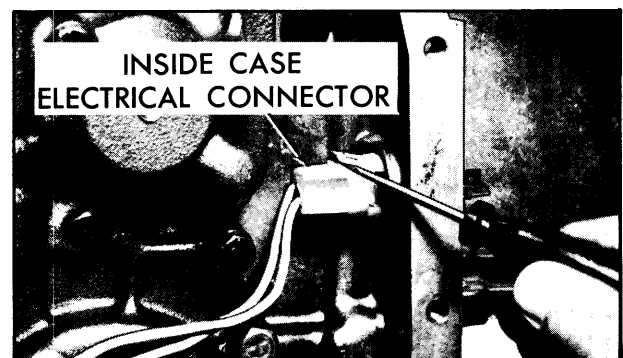

Fig. 7E-222 Installing Stator Connector
1. Install the case to intake pipe "O" ring seal on strainer and intake pipe assembly. (Fig. 7E-225)